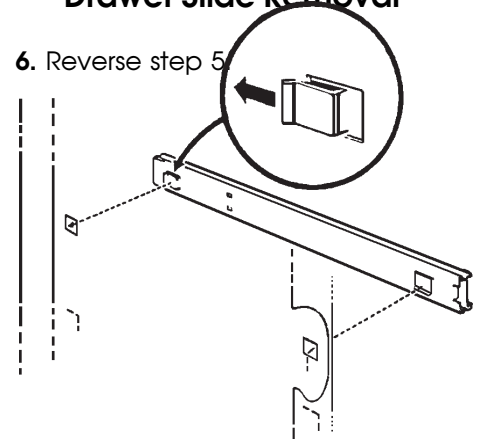

Figure 5. Drawer Slide Installation
5. Take one slide and insert rear clip into rear notch, and lower front clip into front notch (See Figure 5.).